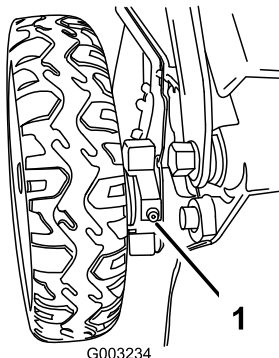

Figure 32
1. Wipe the grease fittings just inside the rear wheels with a clean rag (Figure 32).